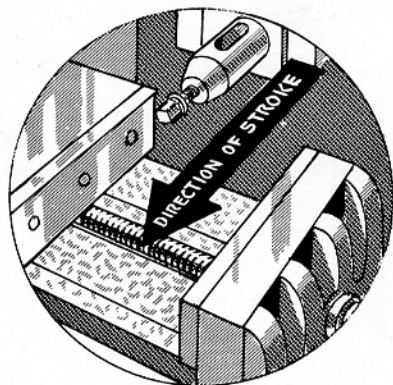

FIG. 145
2. Set the vise jaws approximately parallel with the direction of the stroke. Refer to Fig. 145.